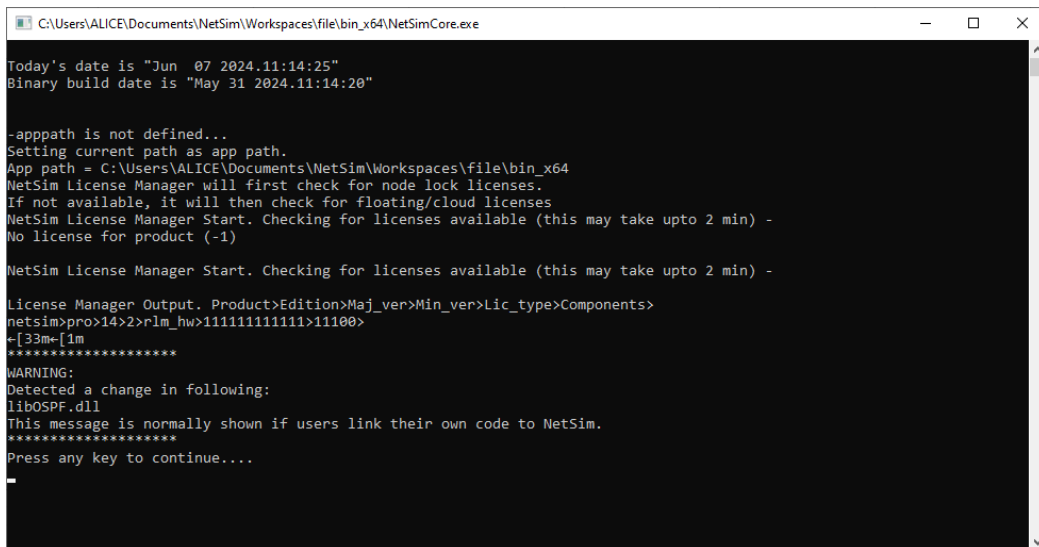

Figure 10-28: Modified Project DLL Warning Message in NetSim Console
- In the console window user would get a warning message shown in the below screenshot Figure 10-28 (because of changed DLL) and then the simulation will pause for user input (because of _getch() added in the init function)